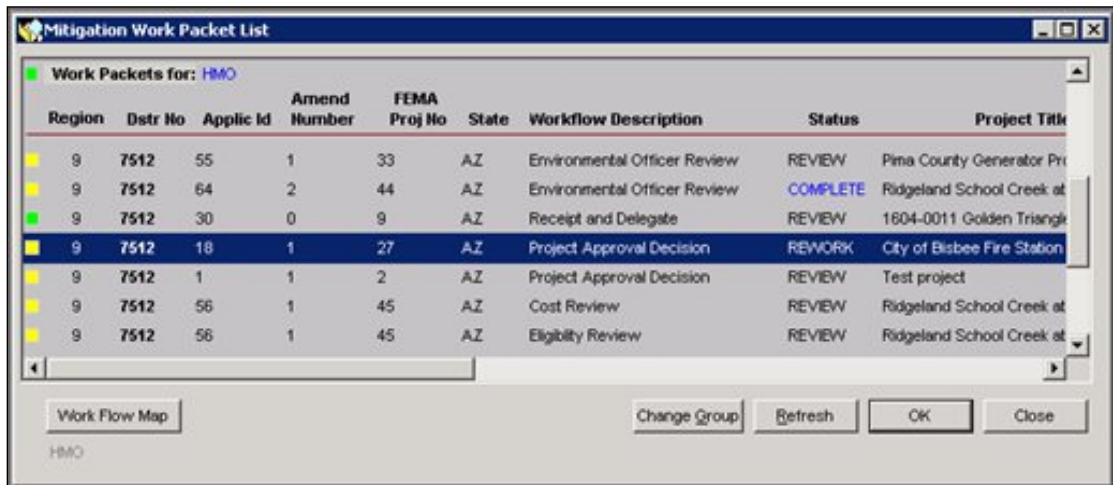

Figure 7-125: Mitigation Work Packet List - Project Approval Decision Rework
19. On the bottom right part of the screen, click the REFRESH button. The project application that just went through the Final Project Approval process now displays "Project Approval Decision" under Workflow Description. The Status now says "REWORK" (Figure 7-125).